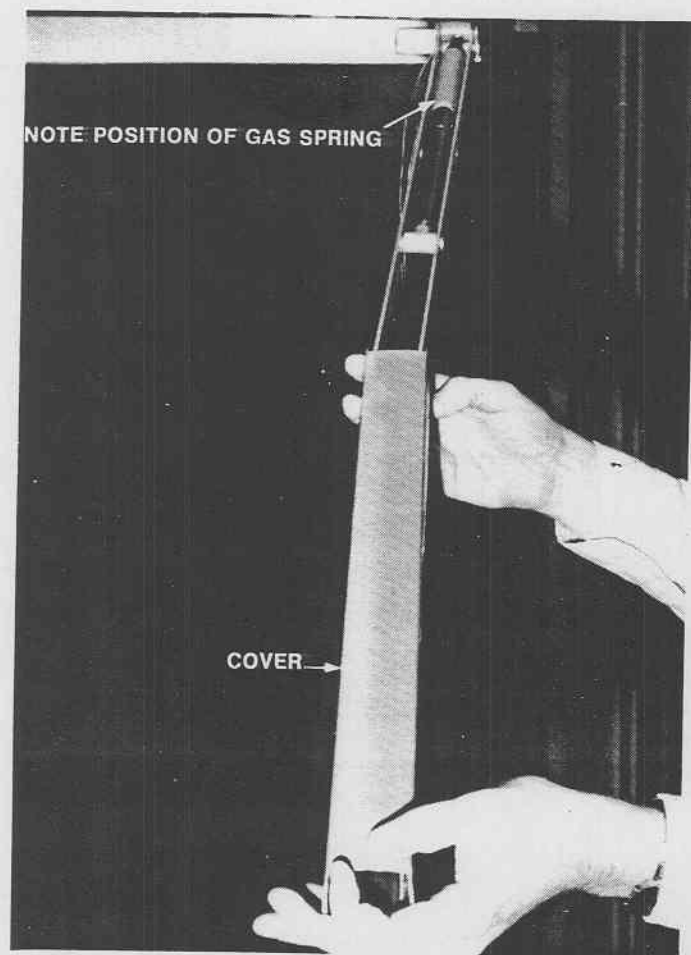

FIGURE 17—REMOVING COVER
- K. Slip cover off front of arm and replace gas spring (Figure 17 and 18).